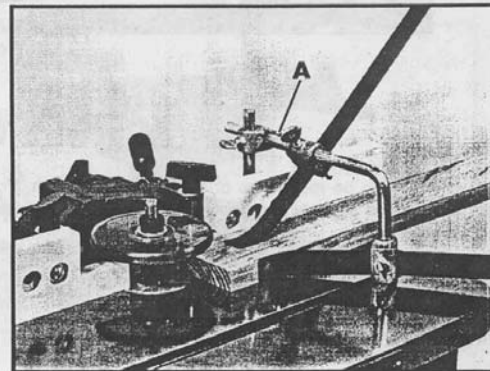

Fig. 22
Available as an accessory for use on the shaper fence for straight shaping operations is the 43-983 Spring Hold Down (A), Fig. 22. This accessory holds the work firmly against the fence and table.
Assemble the 43-983 Spring Hold Down to the shaper fence as shown in Fig. 22.